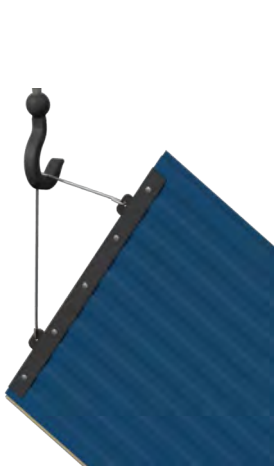

Figure 5.20a
5.20 Rotate panel on edge (see 5.17), and lift per figures 5.20a and 5.20b.